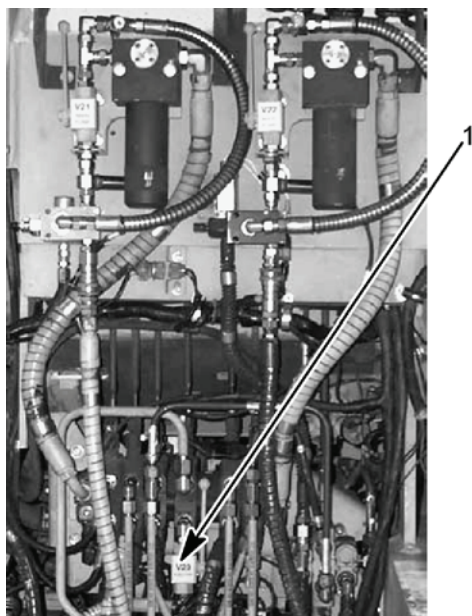

Figure 35. DCV Bank
- Disable ejector; manually close V23 (Figure 35, item 1) on the DCV bank. Using LINE UP or LINE DOWN button (Figure 36, item 3), select V1 on the HDC display (Figure 36, item 2). Close V1 on the HDC display (Figure 36, item 2) by selecting the CHANGE POSITION button (Figure 36, item 4) on the HDC control box.